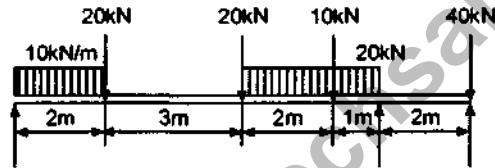

Fig. 7.
Q. 4(b) Draw the shear force and bending moment diagrams for the simple supported beam as shown in Fig. 7.